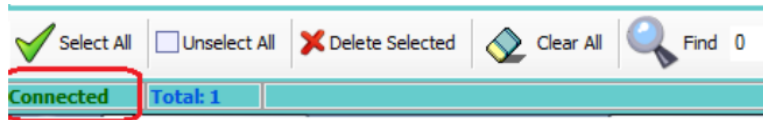

Figure 6
3. Once the **2w-MMR** is connected you will see “**Connected**” in green letters on the lower left corner of the application window (see figure 6).